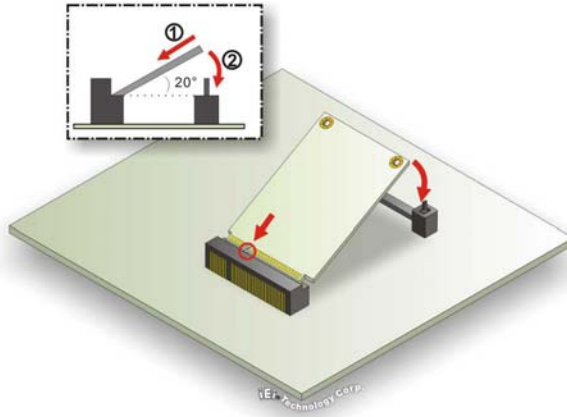

Figure 3-11: PCIe Mini Card Installation
Step 6: Insert into the socket at an angle. Line up the notch on the card with the notch on the connector. Slide the PCIe Mini card into the socket at an angle of about 20° (Figure 3-11).
Step 7: Push down until the card clips into place. Push the other end of the card down until it clips into place on the plastic connector (Figure 3-11).